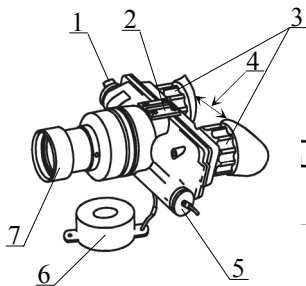
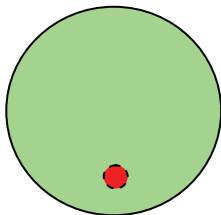

Fig.1 NV66-G2 goggles
Fig.3 Low battery indicator
Prior to installing the battery, make sure the switch (1, Fig.1) is in the OFF position and the lens cap is on.
Unscrew the battery compartment cover (5, Fig.1), and install 2 fresh AA batteries. Observe the correct polarity indicated on the housing. Screw in the battery compartment cover back.
To check if the unit is operational switch it ON (rotate switch (1, Fig.1) clockwise) and look through eyepiece (4, Fig.1). You should see greenish-lit screen. If the screen is not lit check the battery.
When the unit is ON user may see a circular indicator through the eyepiece (Fig. 3). It is hardly noticeable when not active.
After you have finished using the device, turn it off by rotating switch (1, Fig.1) to OFF position. Put protective lens cap on the lens. Remove the battery from the battery compartment to avoid damaging of the device in case of electrolyte leakage.
Take off the lens cover (6, Fig.1) from the lens (7, Fig.1). Turn on the device using switch (1, Fig.1). If lighting is insufficient, turn on the IR illuminator by turning switch (1, Fig.1). The red indicator (Fig. 3) will go on. IR illuminator is effective when observing an object located not far from the viewer.
To obtain sharp image at other distance adjust the lens focus (7, Fig.1) leaving eyepiece setting intact. You should be able to obtain a sharp image for distances from 0.2-10 m to infinity depending on lens magnification.
When wearing the unit the eye-relief (the distance between your eyes and the eyepieces) should be 15-22 mm. In order to achieve this, loosen the locking screw (8, Fig.1) and set a comfortable distance between the eyes and the eyepieces; then tighten the locking screw (8, Fig.1).
2. Remove the lens cap (6, Fig.1).
3. Detach the current lens: hold the lens by its base (1, Fig.1) and rotate it counter-clockwise. Once the lens has been removed, store it in a safe, clean space.